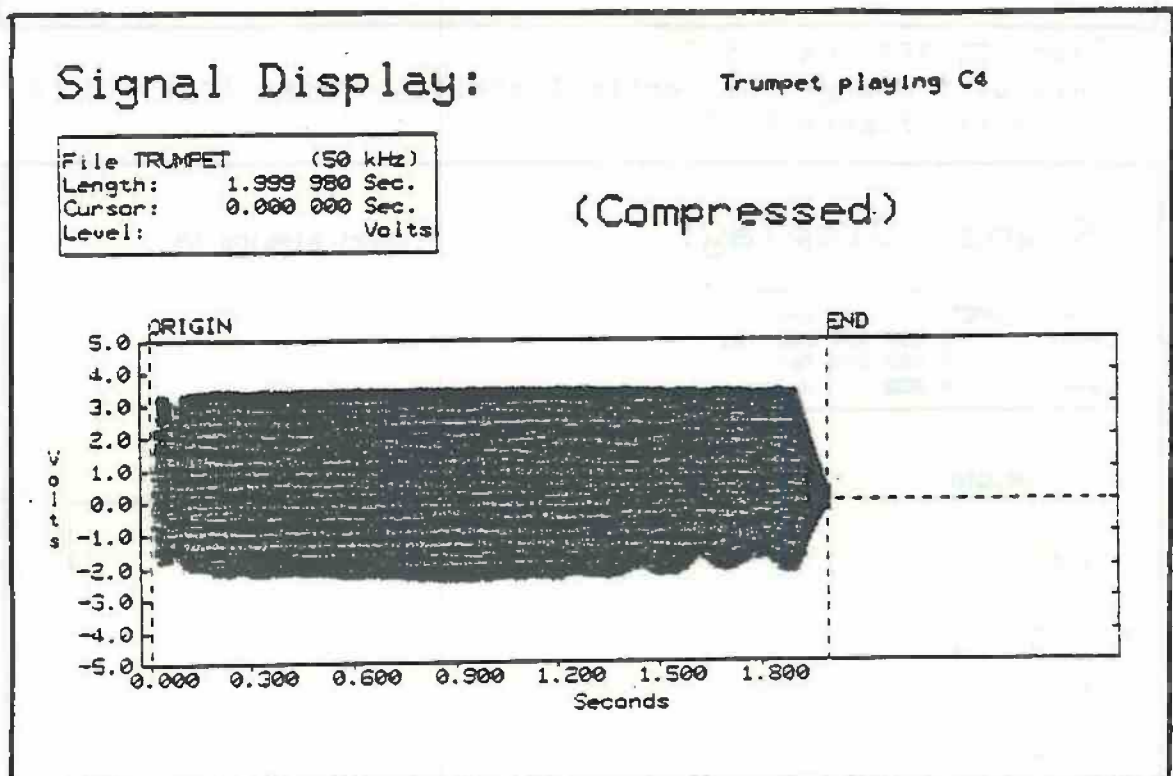

Figure 4.15
6. Press the PF4 key four more times until the envelope of the entire sound is displayed on the screen (Figure 4.15).